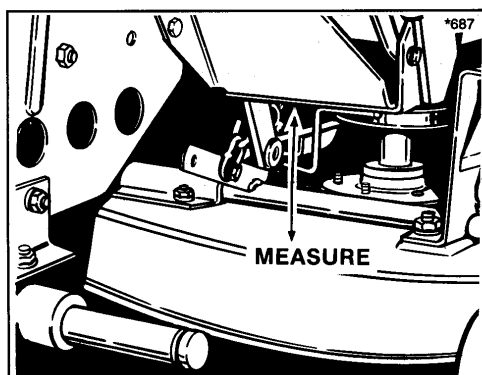

Figure 50. Measurement - Large Lift Lever
2. Measure the distance from bottom edge of lever bracket to mower deck (figure 50).